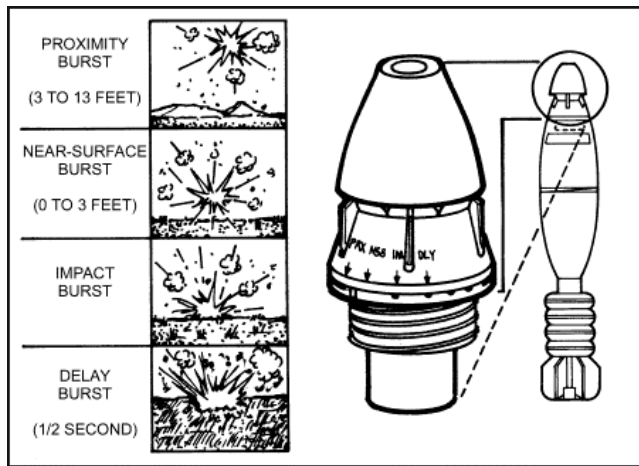

Figure 3-9. Multioption fuze, M734.
- a. **Multioption Fuze, M734.** This fuze for the M720 HE round can be set to function as proximity burst, near-surface burst, impact burst, or delay burst (Figure 3-9). Tools are not needed to set this fuze. The setting can be changed any number of times before firing without damaging the fuze. The fuze has no safety pins or wires to reduce preparation time. The round bursts at 1 to 4 meters (3 to 13 feet) above the target. If a round set for proximity fails to burst at the proximity distance above the target, it automatically bursts at 0 to 1 meter (0 to 3 feet) above the target. If a round set for near-surface burst (NSB) fails to burst at the near-surface distance above the target, it automatically bursts on impact. If a round set for impact fails to burst on impact, it automatically bursts 0.5 (1/2) second after impact (delay).